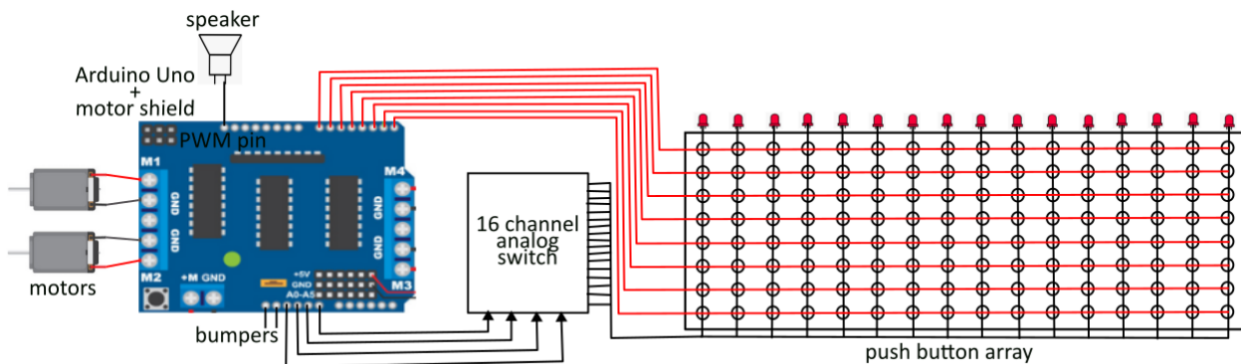

Figure 2: block scheme of the electronics.
The implementation of the electronics of the robot should follow the block scheme in Figure 2, in which the Arduino uno is connected to the motors, speaker, and bumpers through the pins indicated above. Four (five) pins can be used to drive a 16 (32) channel analog switch that will activate the selected line of push buttons in the array. The signals from the array will be connected to the remaining digital I/O to provide the encoded robot command. Each command will therefore be of 8 bits of length. Assuming that 16 different commands will be encoded, the first four bits in the bit sequence will identify the command, while the other four can be used as operands if needed. The number of bits and pins dedicated to each purpose can be re-evaluated during the design.